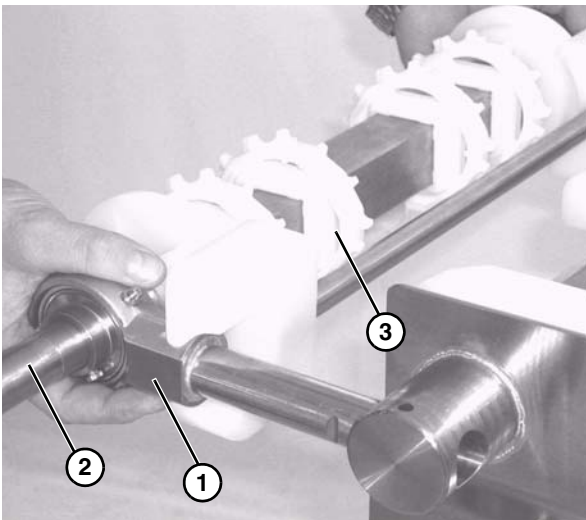

Figure 56
6. Slide the drive tail assembly out of the take up blocks (Figure 56).
7. Slide the motor support bracket (Figure 56, item 1) off the drive spindle (Figure 56, item 2).
8. Remove the sprockets (Figure 56, item 3).